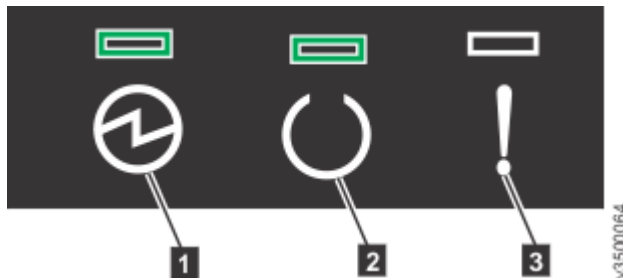

Figure 34. Expansion enclosure LEDs
2. From the rear of the rack, check the LEDs on each expansion enclosure (see Figure 34 on page 72).